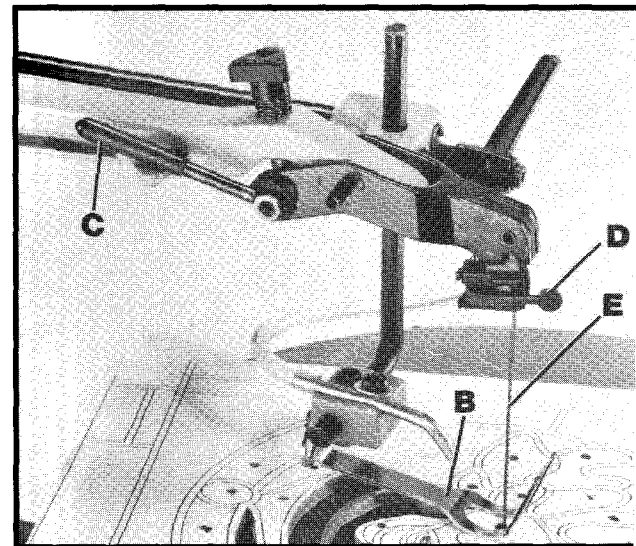

Fig. 39
Reassemble blade (E) Fig. 39, back into the upper blade holder and tighten blade by moving lever (D) forward. Move tension lever (C) to the rear as shown and lower spring holddown (B). You are ready to make the next inside cut.